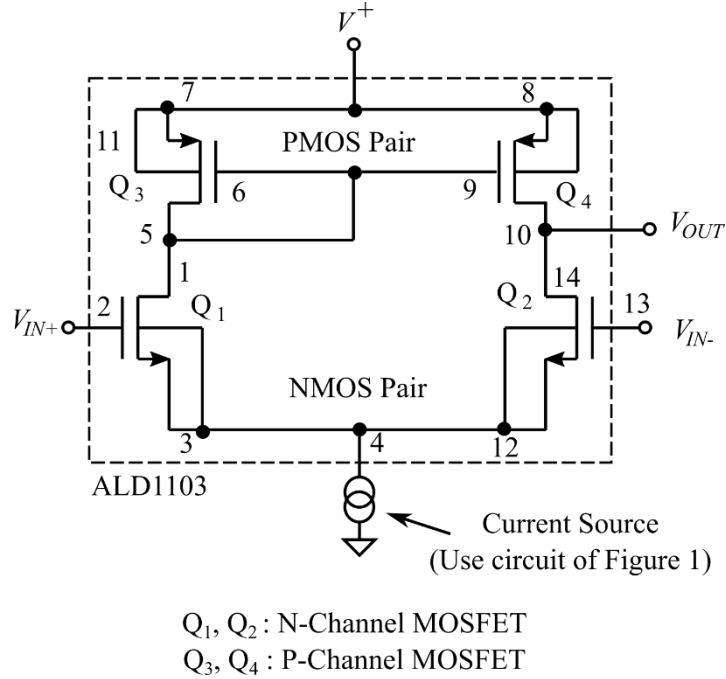

Fig. 3. Differential Amplifier with PMOS Active Loads.
- Construct the differential amplifier of Figure 3. The constant-current source shown will be built using the circuit of Figure 1. Check the wiring carefully.